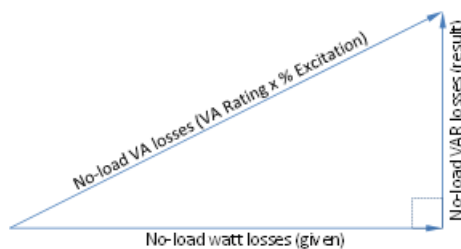

Figure 11: Deriving No-load-VAR-Losses
The rated no-load-VAR-losses are not given in the transformer's datasheet as watt-losses are. They must be derived. That is done by solving the power triangle for VAR-losses where the watt-losses and the VA-losses are known. Watt-losses, (2) in Table 1, are given in the transformer's datasheet. VA-losses are the product of the transformer's VA rating, (5) in Table 1, times the percent excitation, (4) in Table 1. This is illustrated in Figure 11, below.